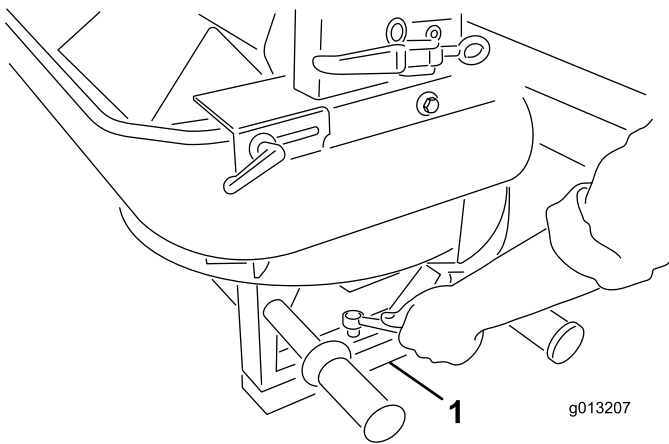

Figure 6
5. Remove the four screws from the legs of the twin spinner. With the help of a partner, lift the twin spinner and remove the packing studs and packing foam (Figure 6).